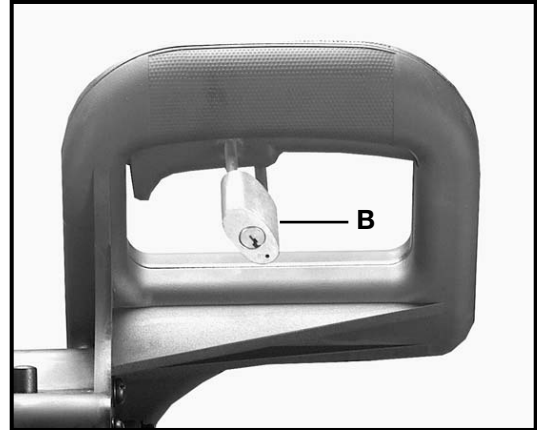

Fig. 11
**IMPORTANT:** When the miter saw is not in use, the switch should be locked in the OFF position using a padlock (B) Fig. 11, with a 3/16" diameter shackle to prevent unauthorized use of the saw.